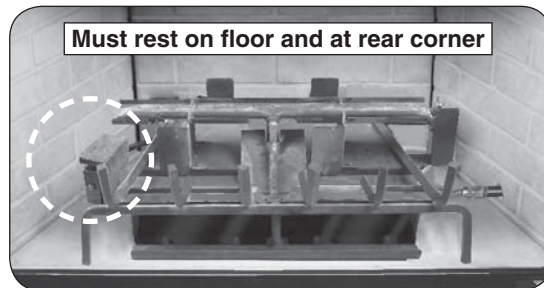

Fig. 13-1 Place heat shield
- Place the decorative heat shield over the switch box as shown in Fig. 13-1.